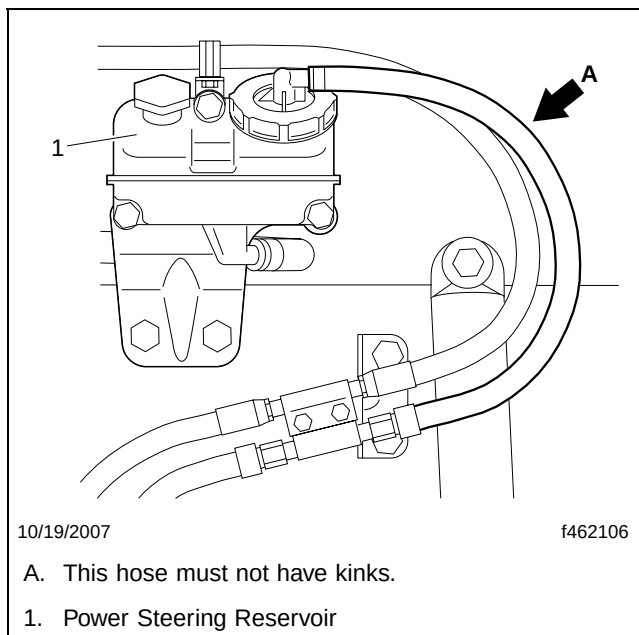

Fig. 7, Hose Routing From Power Steering Reservoir
36. Connect the return hose between the reservoir and formed line. The hose should have no necking or kinks that may impede the return fluid flow. See **Fig. 7**.